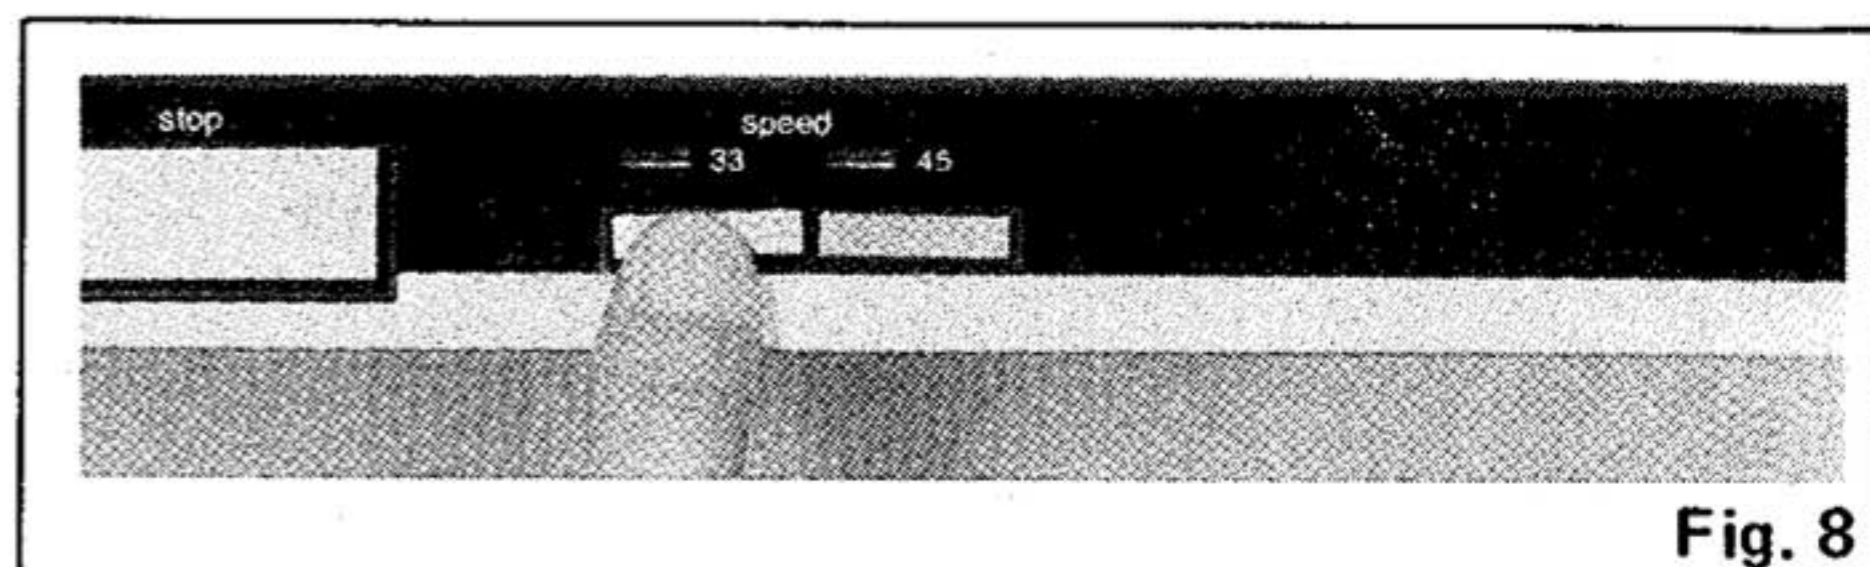

Fig. 8
3. Push the speed select button to the desired record speed. (See Fig. 8.)